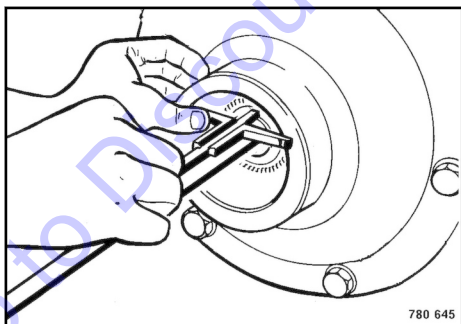

Fig. 241
1. Push the exciter shaft into the bearing flange against the end stop ↪ Fig. 241.